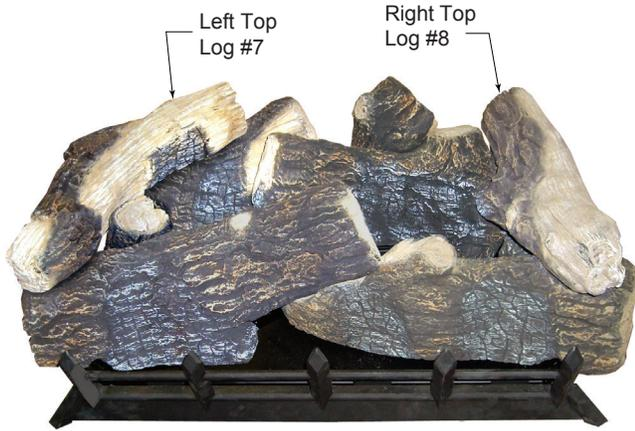

Figure 30. Place Right Top Log #8
- Place left top log (#7) on left rear log (#4) and left front log (#5) using locating grooves on bottom of #7 and locating blocks on logs #4 and #5. Figure 30
- Place right top log (#8) onto right rear (#3) and right front (#2) logs using locator on bottom of right top log. Figure 30